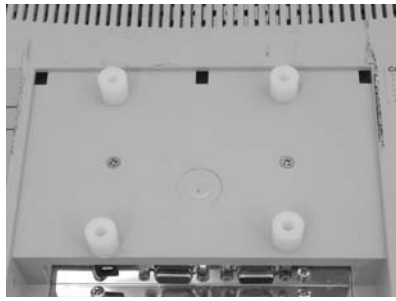

Figure 2
2. For displays with a recessed mounting surface, place four .5 OD X .194 ID X .5" Nylon spacers over four mounting holes (see Figure 2).